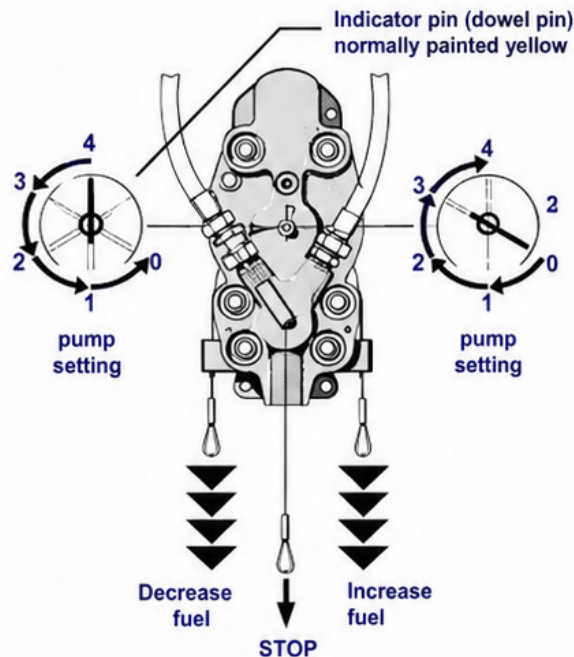

Fig 12 – Fuel Control Pump Setting
- Remove the locking screw (ref. 16 in Fig. 12)